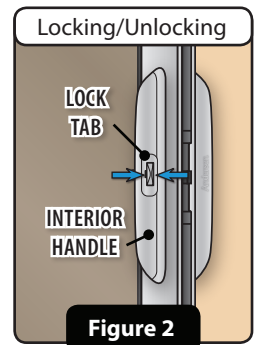

Figure 2
- a4** Rotate the **Sill Adapter** down to the **Door Sill** (see **Figure 2**).
- b3 Measure and mark from each end of the Sill Adapter the Halved Calculated Length so equal amounts are removed from both sides (see Figure 2).
To lock the insect screen door, move the **Lock Tab** toward the screen assembly. To unlock, move the **Lock Tab** away from the screen assembly (see Figure 2).